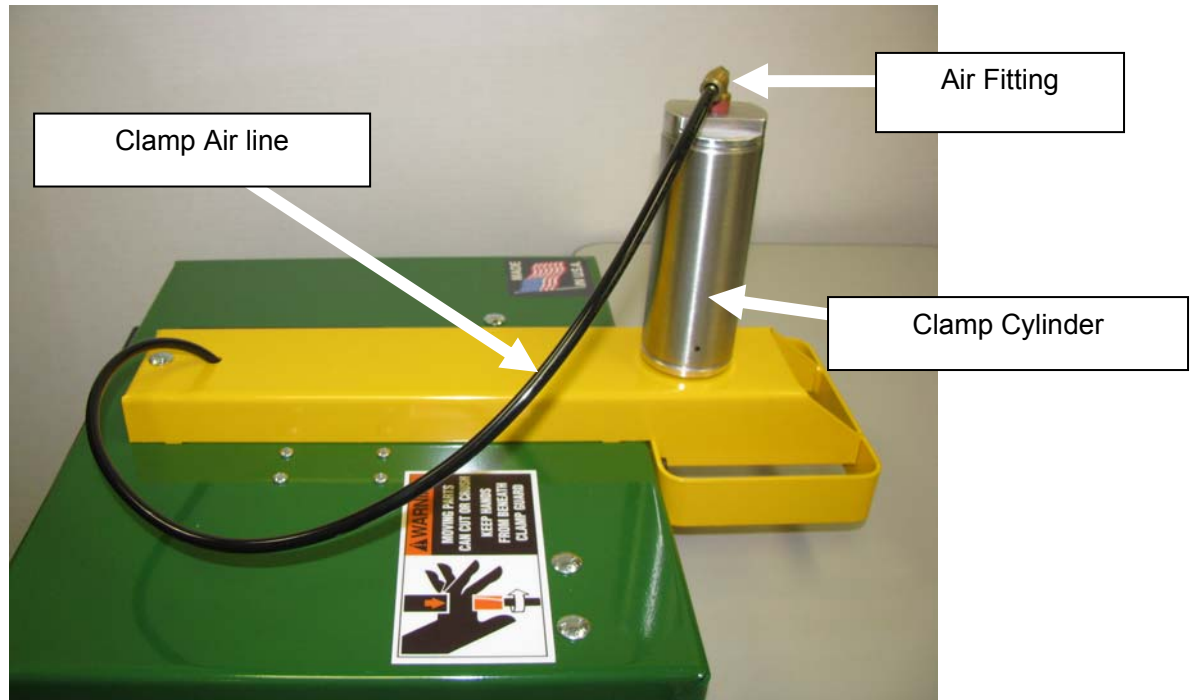

Fig 4
3. Connect an external air supply directly to the “push in” air fitting. **See Fig 4.**